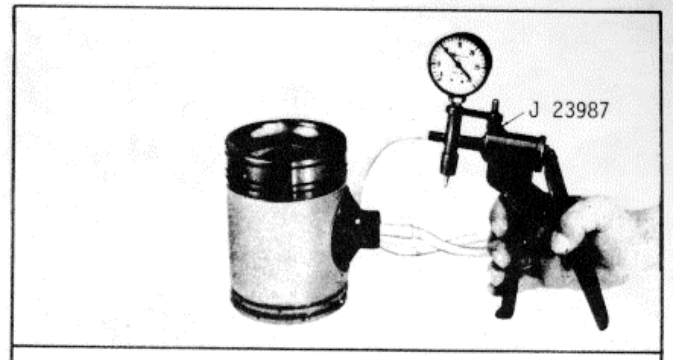

Fig.11
- (6) One important function of the piston pin retainer is to prevent the oil, which cools the underside of the piston and lubricates the piston pin bushings, from reaching the cylinder walls. Check each retainer for proper sealing with leak detector J 23987 (Fig.11).Place the suction cup over the retainer and hand operate the lever to pull a vacuum of ten inches on the gauge. A drop in the gauge reading indicates air leakage at the retainer.
- (7) Install the piston rings on the piston as outlined in SM6-5-20.0.
- (8) Install the piston and connecting rod assembly in the engine as outlined in SM6-5-22.0.